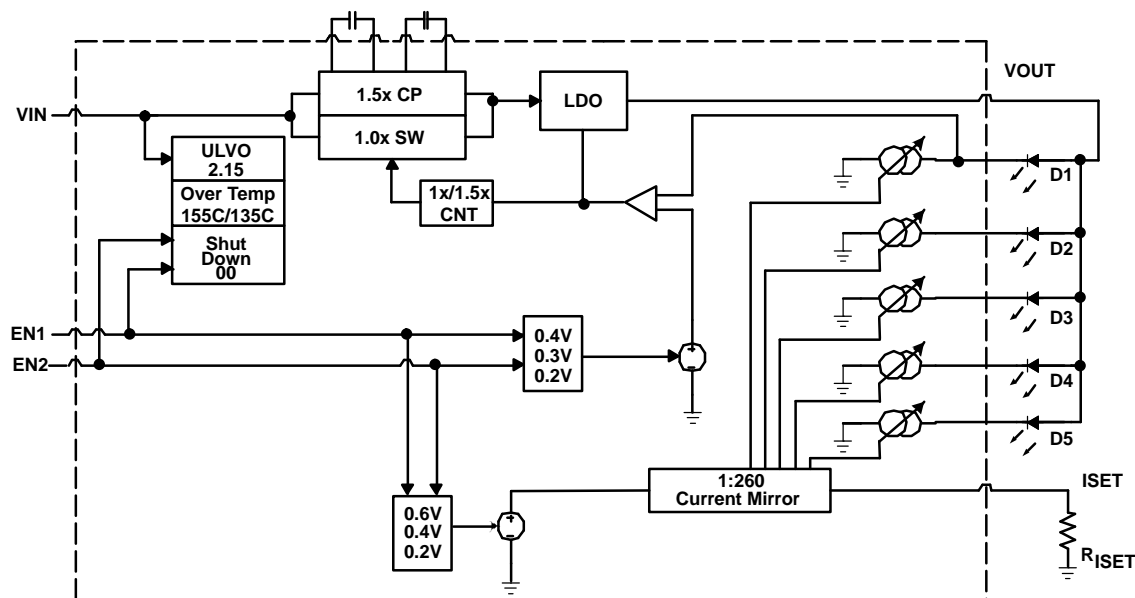

Figure 1. TPS60230 Block Diagram
The TPS60230 takes the input voltage and regulates it to the correct voltage needed to efficiently drive up to five LEDs. This IC can step up or step down the input voltage as required. As shown in Figure 1, if the input voltage is below the required output voltage, the internal 1.5x-mode charge pump (CP) increases the input voltage by a factor of 1.5. The resulting voltage passes through an internal linear regulator function. If the input voltage is above the required output voltage, the charge pump effectively operates in 1x mode, and then the linear regulator function reduces the voltage. The resulting output voltage is supplied to all LEDs in parallel. The return for each LED is individually connected to a current source in the IC. A 1-to-260 current mirror controls the current through each LED's current source. The current out of the ISET pin sets the current into the current mirror. The digital inputs EN1 and EN2 control the voltage on the ISET pin.